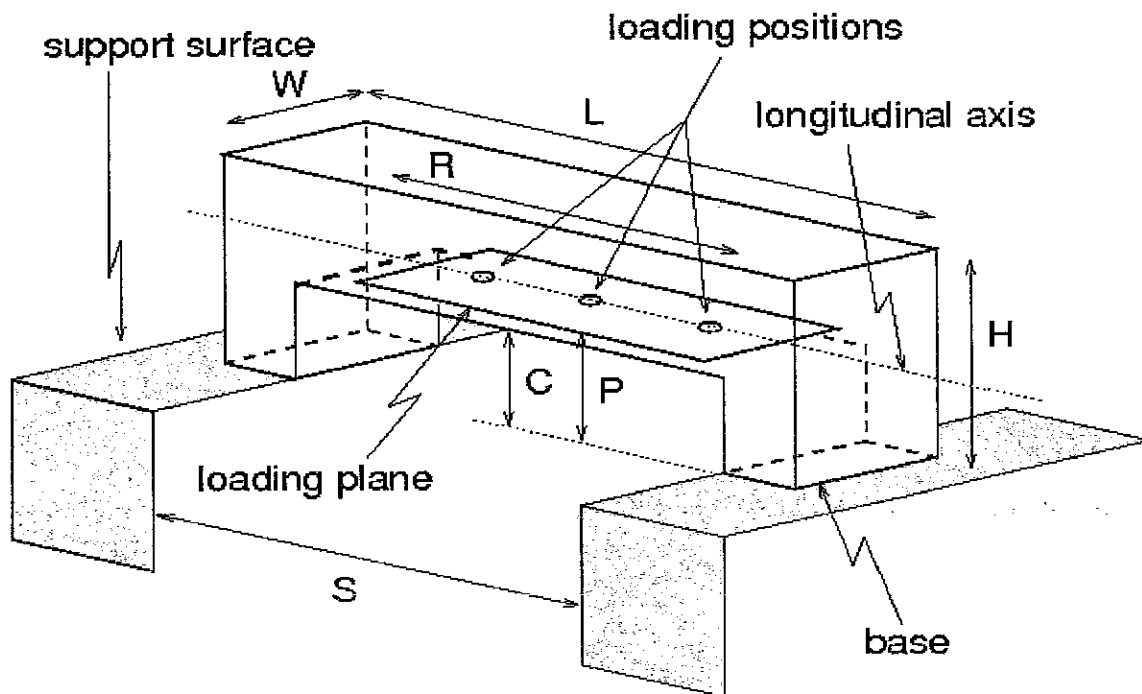

Figure 1. Schematic of Bridge (not to scale)
8. **CONSTRUCTION (See Figure 1).**
- b. The bridge (see **Figure 1**) must span a gap (**S**) of 300. mm, be no longer (**L**) than 400. mm, have a width (**W**) between 40. mm and 70. mm, and be no taller (**H**) than 180. mm above the support surface, and have a width (**W**) between 40. mm and 70. mm. It must have a horizontal loading plane that is a maximum height (**P**) of 80. mm above the support surface. The bridge structure may not project below the support surface.